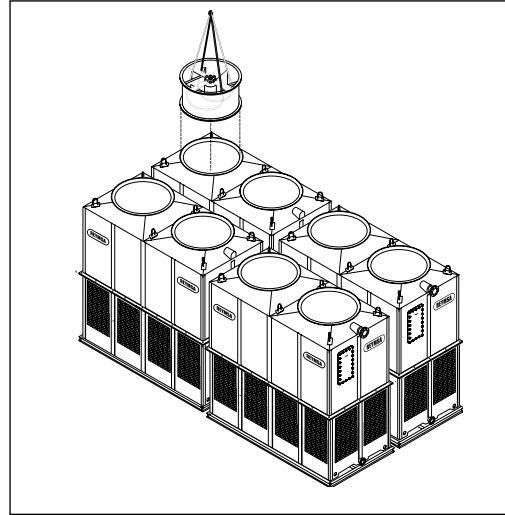

Figure A-80: Fan Duct installation for a Modular Tower (RTM or RTPM Models)
- H. Identify each fan duct, they are labeled with a number on the inside of the lower edge. For a correct installation, this number must match the number on the distribution manifold of the corresponding body section. Now place fan duct 1 on the correspondent receiving flange on top of the Tower; make sure the bolt holes and the marks inside the fan duct and the receiving flange are aligned (see Figure A-80). Secure it with the stainless steel nut and bolt sets supplied by REYMSA.